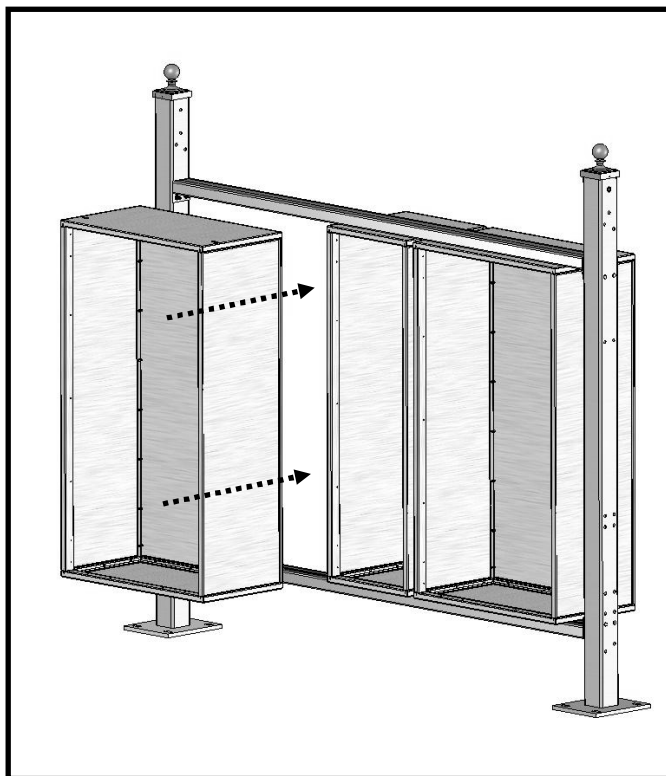

Figure 23 – Installing mailbox casing in vario EXPRESS™
- a) Place the 4C mailbox casings into the vario EXPRESS™ between the upper and lower horizontal beams. *See Figure 23.*